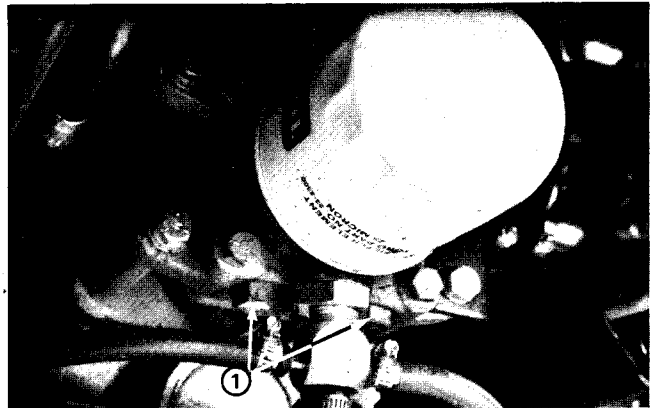

Figure 13a
2. Place a drain pan on the floor beneath the transmission. Remove the hex head plug located on the bottom right-hand side of the transmission (Fig. 13a).